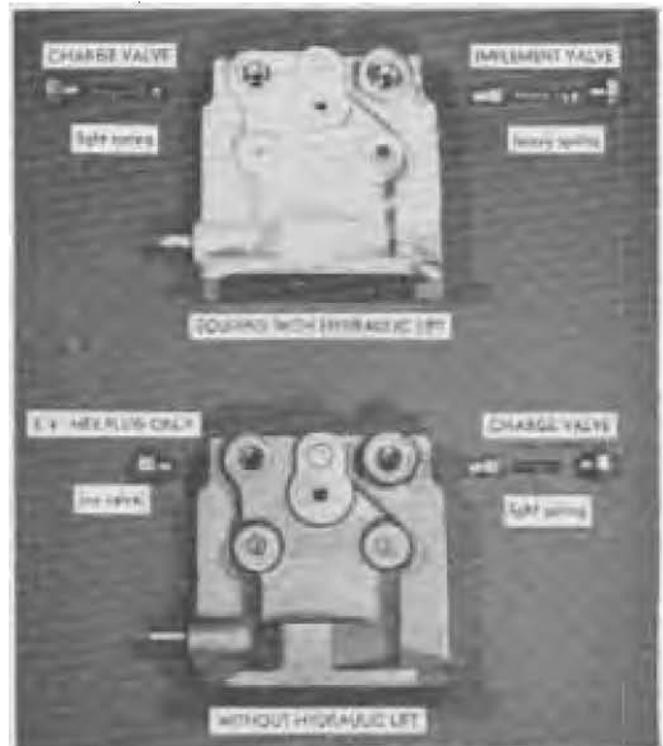

FIG. 51. Pump End Caps
8. Remove the $\frac{5}{16}$ " hex plug from the top left corner of the pump end cap. (Top left means viewed from the motor side of the end cap. See Fig. 51). If the unit is equipped for hydraulic lift operation, remove the charge ball valve and spring from the pump end cap (top view). If the unit is not equipped for hydraulic lift operation, there will be no spring and ball valve in this area (bottom view).